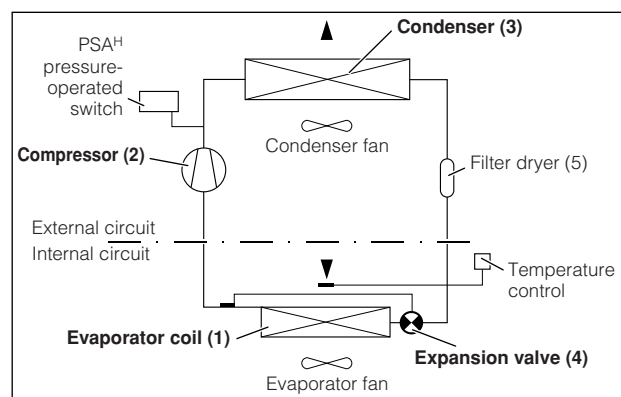

Fig. 2: Cooling circuit
The cooling unit (compression refrigeration system) is comprised of four main components (see Fig. 2): the evaporator (1), the coolant compressor (2), the condenser (3), and the control or expansion valve (4), which are connected by suitable pipework. This circuit is filled with a readily boiling substance, the refrigerant. Coolant R134a (CH_2FCF_3) is chlorine-free. Its ozone destruction potential is 0, making it